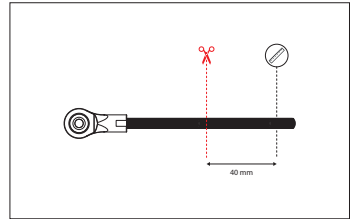

Fig. 10: Shortening the threaded rod
2. Shorten the coupling rod's threaded rod. The length of the threaded rod must be 40 mm less than the distance measured in point 1 (Fig. 10).